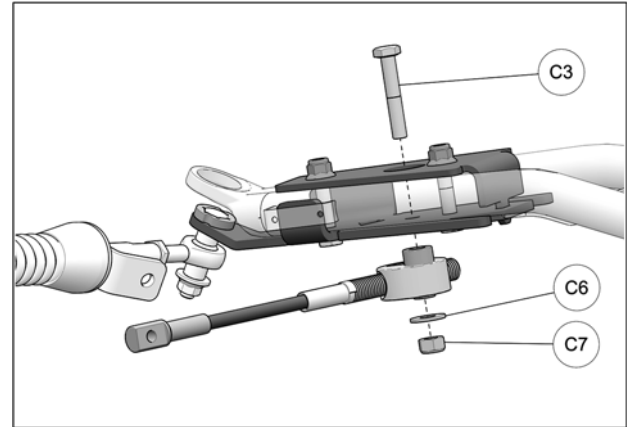

Fig. 22
12. Pass bolt (C3) down through opening in bracket cover and insert it in the anchor bracket's center hole. Use supplied washer (C6) and nut (C7) to secure steering limiter assembly in place. Tighten nut to 50 N•m [37 lb•ft]. See Fig. 22